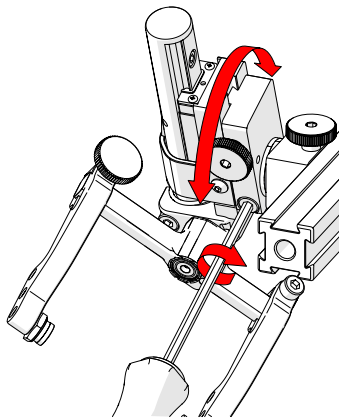

Fig. 119 - Rotate to position
3. Rotate the main body of the probe holder until it is at the desired angle (*Fig. 119*).
4. Tighten the longitudinal adjustment screw (*Fig. 119*).